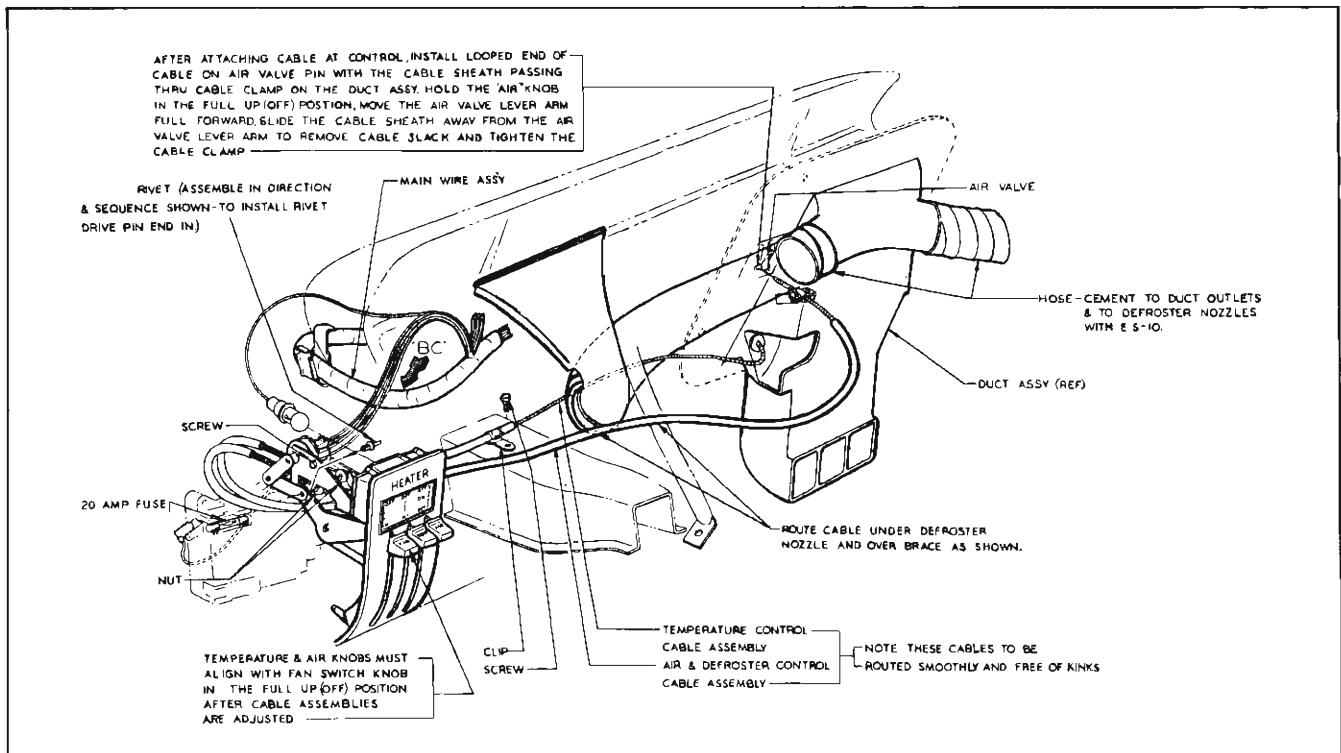

Fig. 12-7 Reference Illustration—Body Interior Details
- Loosen the bowden cable clamp in the heater air outlet duct (Fig. 12-7).